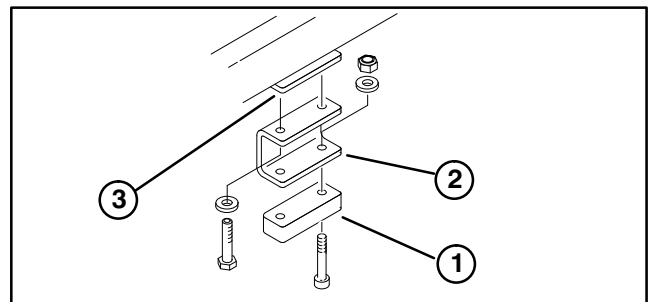

Figure 11
3. Mount a rubber stop (Fig. 11) to frame bracket on each side of traction unit as follows:
A. On traction units equipped with a fixed cutting unit lift arm kit, mount a U-bracket to each frame bracket with (2) washers and screws. Then, mount a rubber stop to each U-bracket with (2) screws.
B. On traction units equipped with a floating cutting unit lift arm kit, mount a rubber stop directly to each frame bracket with (2) screws.